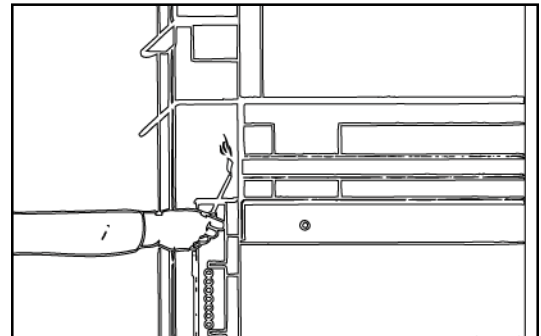

Figure 29
- Hold the match in front of the tube. If the flame and smoke are drawn into the tube, the appliance has good ventilation. If the flames and smoke are forced away from the draft tube, this may indicate a ventilation blockage or downdraft resulting in exhaust spillage into your home. If this occurs, turn off the appliance and do not burn it until it has been inspected by a qualified service person. See Figure 29.